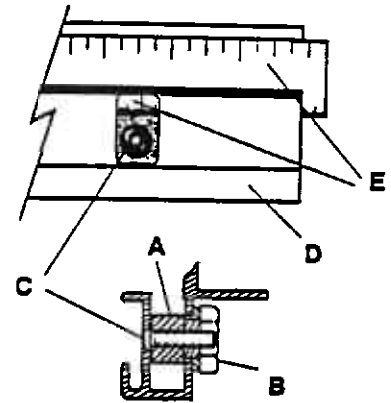

Figure 10
J. See Figure 10. Lay a long straight edge on the **SQUARING EDGE BARS (A)** of both the **LEFT** and **RIGHT SUPPORTS**. Rotate the **ECCENTRIC NUT (B)** behind the **BUTTON HEAD SCREW (C)** in the **RIGHT SUPPORT (D)**. This will raise or lower the **RIGHT SQUARING EDGE BAR**. Raise it until the **SQUARING EDGE BAR** and straight edge (**E**) touch. You can observe this through the cut out where you see the button head screw. Tighten the **BUTTON HEAD SCREW** while holding the **ECCENTRIC NUT** so it can not turn.